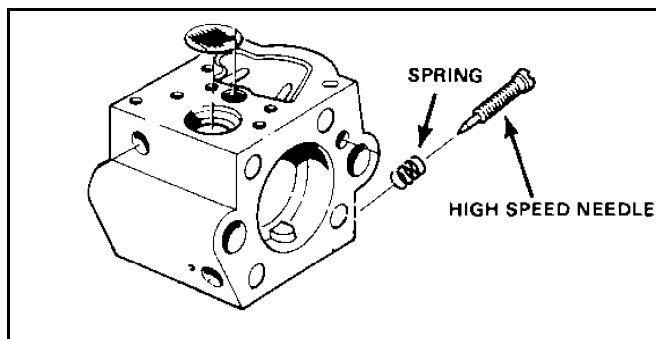

Figure 207
4. Remove the high speed needle. Inspect the tip of the needle and replace it if it is blunt or damaged (Figure 207).